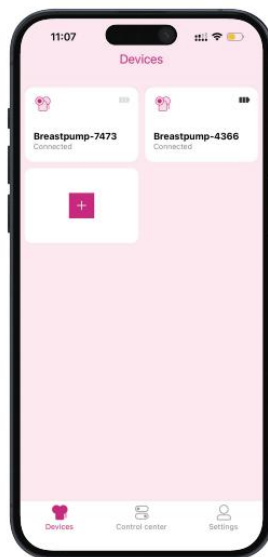

Figure 6-3 Bluetooth Pairing
- 1) Turn on Figure 6-3 Bluetooth Pairing Bluetooth on your smartphone.